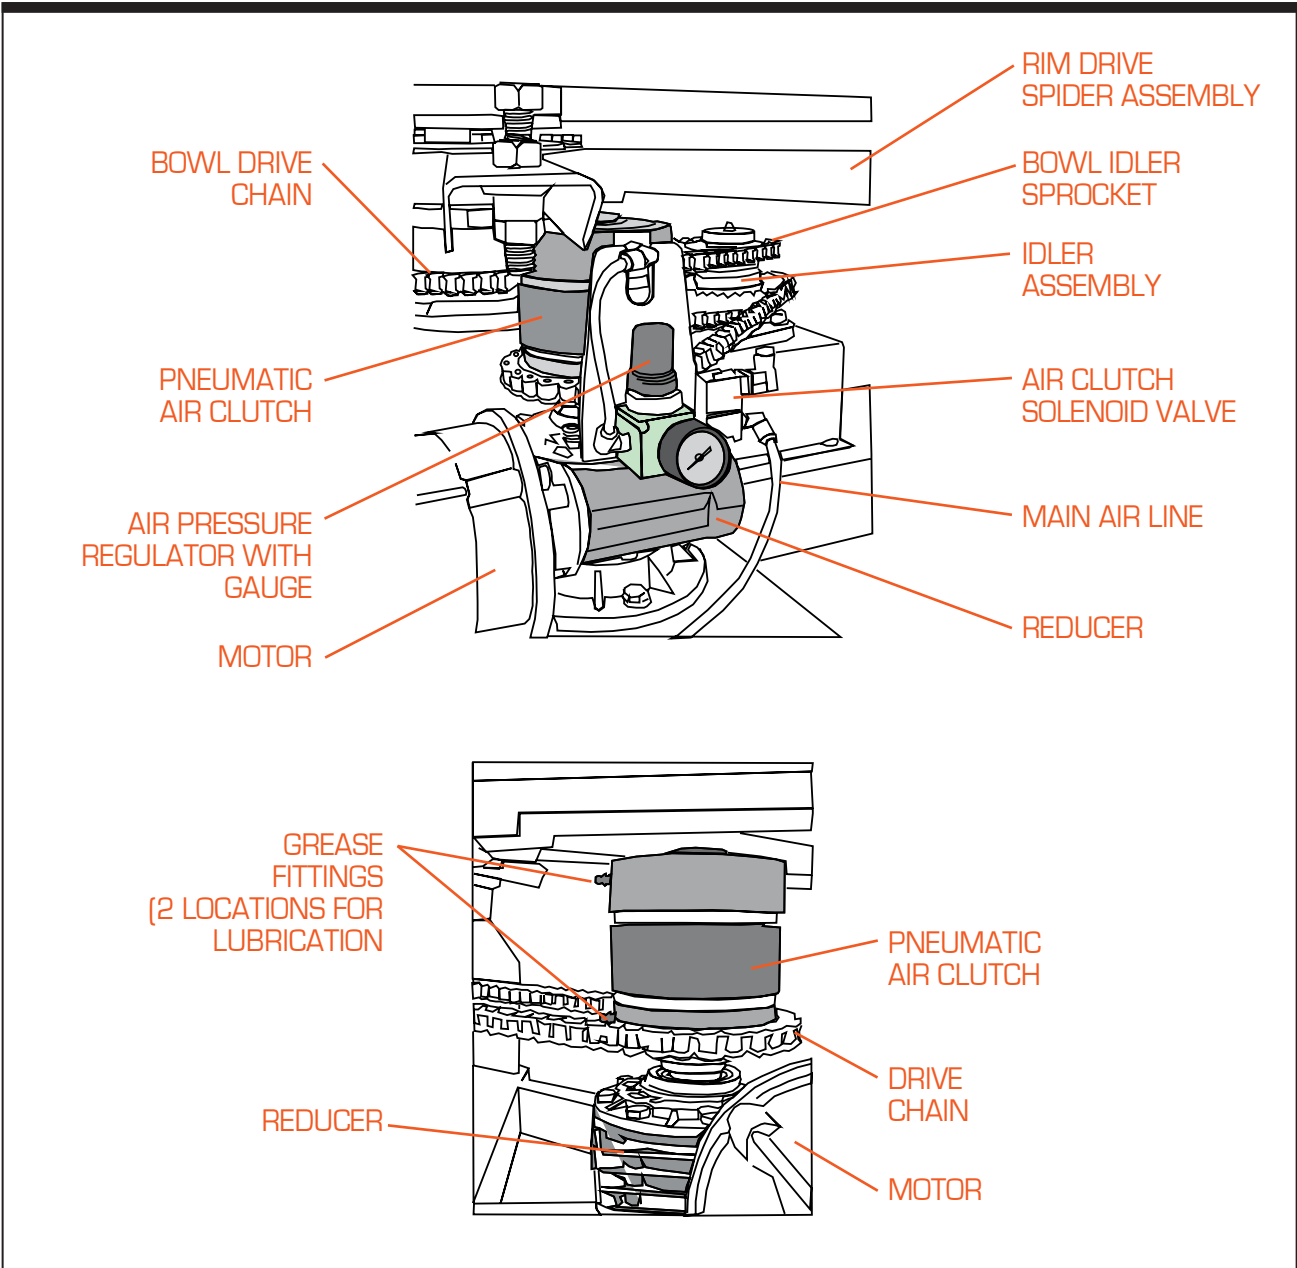

Figure 4-1. FS-40/50 Drive Chain
Step 2—Inspect Drive Chain. Midway between the sprockets, grasp the chain and move it back and forth. You should not be able to move it more than 1 " in either direction. If it moves more than 1 " , adjustment is required (see Figure 4-1.) If an adjustment is needed: